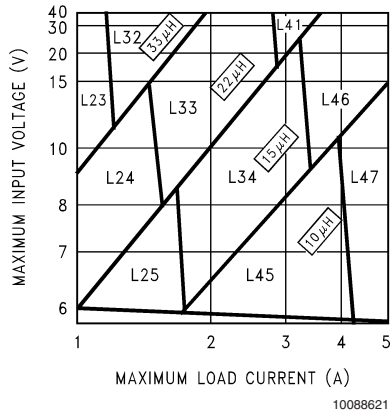
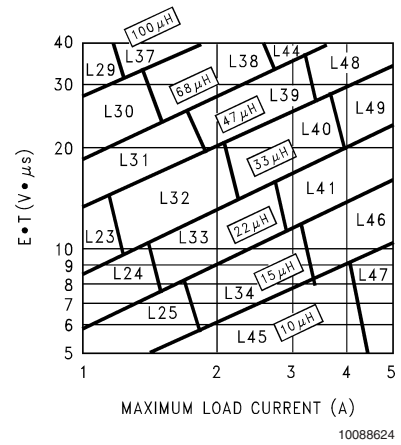

FIGURE 3. LM2678-3.3
FIGURE 6. LM2678-ADJ
Step 3: Determine the inductor required by using one of the four nomographs, *Figure 3* through *Figure 6*. Table 1 provides a specific manufacturer and part number for the inductor.
Step 5: Determine an input capacitor from Table 4 for fixed output voltage applications. Use Table 2 to find the specific capacitor type. For adjustable output circuits select a capacitor from Table 2 with a sufficient working voltage (WV) rating greater than $V_{in\ max}$, and an rms current rating greater than one-half the maximum load current (2 or more capacitors in parallel may be required).
Step 3: Use the nomograph for the 3.3V device, *Figure 3*. The intersection of the 16V horizontal line ($V_{in\ max}$) and the 4A vertical line ($I_{load\ max}$) indicates that L46, a 15 μ H inductor, is required.
Step 3: To use the nomograph for the adjustable device, *Figure 6*, requires a calculation of the inductor Volt \cdot microsecond constant ($E \cdot T$ expressed in $V \cdot \mu s$) from the following formula:
Using *Figure 6*, the intersection of $27\text{V} \cdot \mu\text{s}$ horizontally and the 3.5A vertical line ($I_{\text{load max}}$) indicates that L48, a $47\mu\text{H}$ inductor, or L49, a $33\mu\text{H}$ inductor could be used. Either inductor will be suitable, but for this example selecting the larger inductance will result in lower ripple current.
Important Note: When using the adjustable device in low voltage applications (less than 3V output), if the nomograph, *Figure 6*, selects an inductance of $22\mu\text{H}$ or less, Table 6 does not provide an output capacitor solution. With these conditions the number of output capacitors required for stable operation becomes impractical. It is recommended to use either a $33\mu\text{H}$ or $47\mu\text{H}$ inductor and the output capacitors from Table 6.